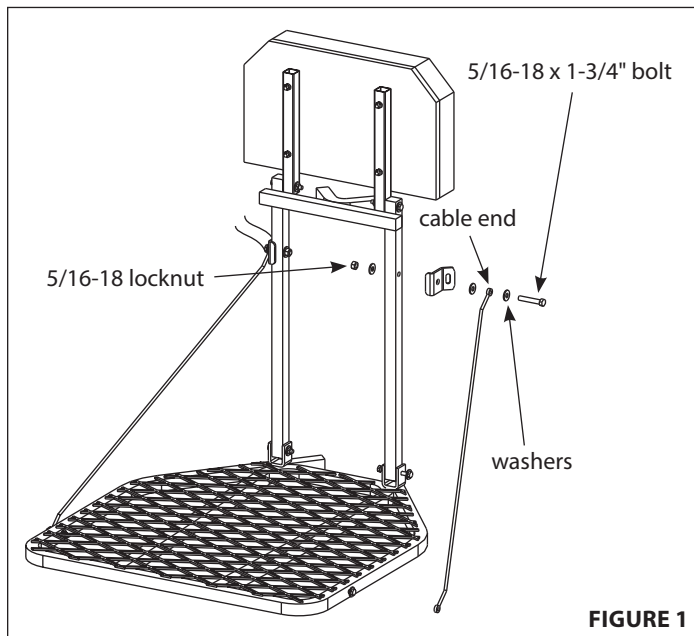

FIGURE 1
2. Attach new strap/brackets onto the seat post. **SEE FIGURE 1**